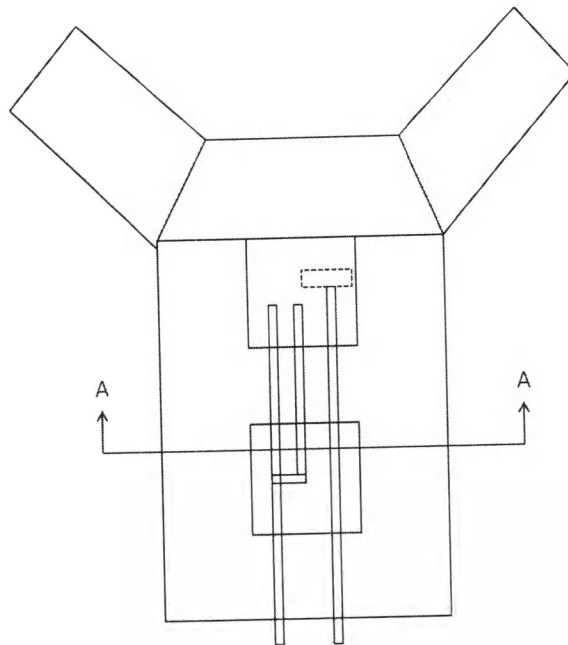

Fig. 2: A spring intake (Not to scale)
6. A schematic diagram of an intake structure is given in Fig. 2.